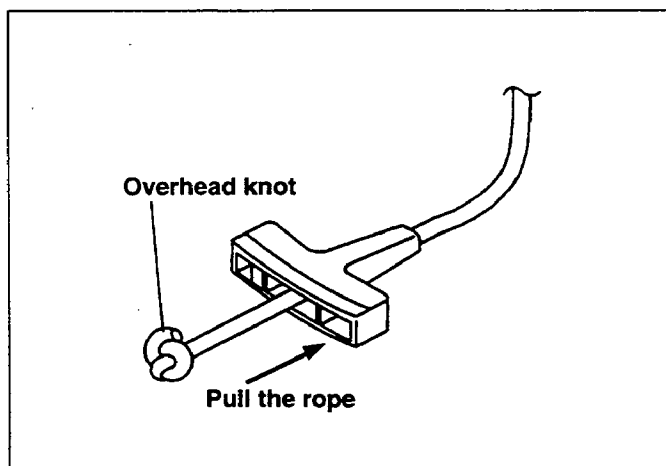
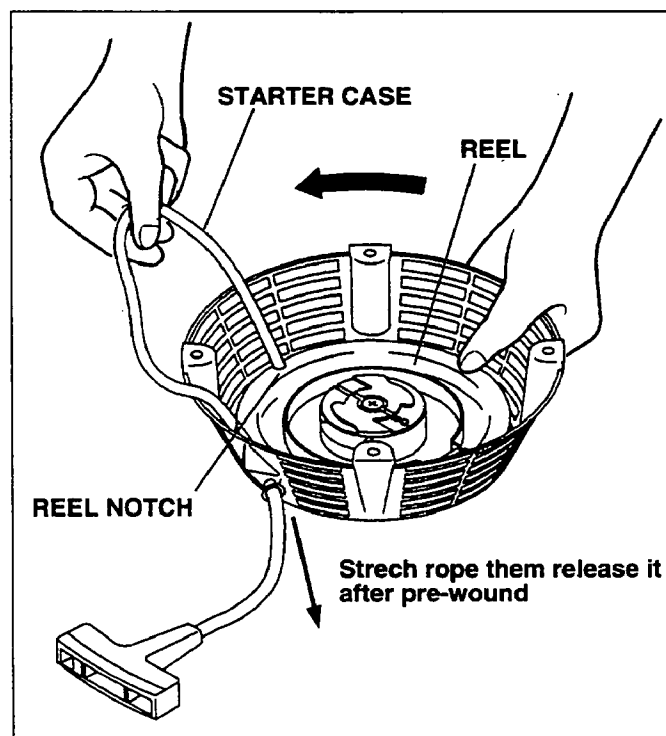

Fig. 9-6
Fig. 9-7
(4) Pass the starter rope through the starter knob and tie the rope end to make a tight overhand knot as shown in Fig. 9-6. Then put the knot into the knob.
(5) Pass the other end of the rope from the starter case to the reel and make a knot as illustrated above, then put the rope end securely into the rope housing in the reel.
(6) Wind the starter rope by 1.5 turns in the arrow direction as shown in Fig.9-7 to let the rope out of the reel through the notch, then install the reel securely in the starter case so that the hook catches inner end of the spring.
(7) Hold the starter rope as shown in the Fig.9-7 and rotate the reel 6 turns by applying the force directly to the reel notch. (pre-winding)